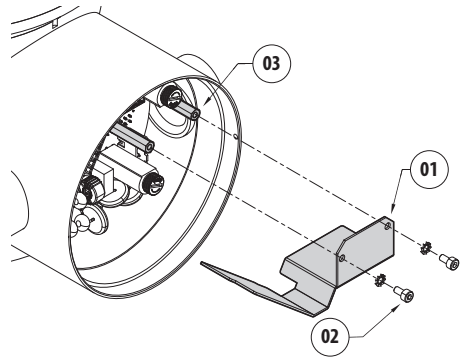
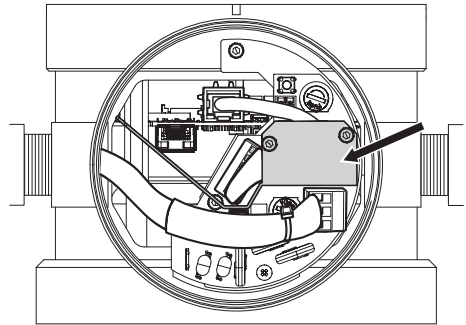

Fig. 17
Fig. 18
Fasten the barrier (01) using the specific screws and washers (02) to the prepared spacers (03) (Fig. 17, page 20 and Fig. 18, page 20).